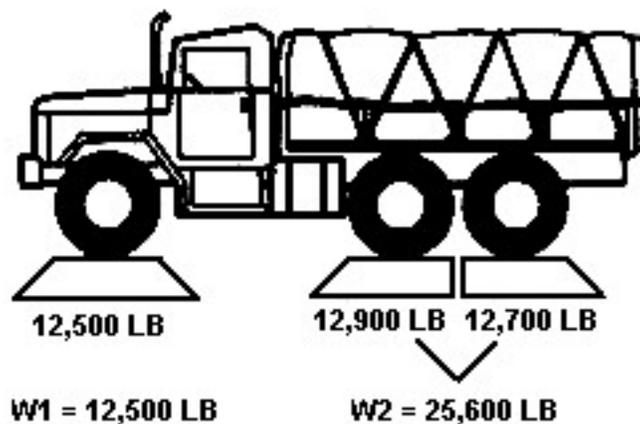

Figure 3-6
2. Weigh axles (see Figure 3-6).